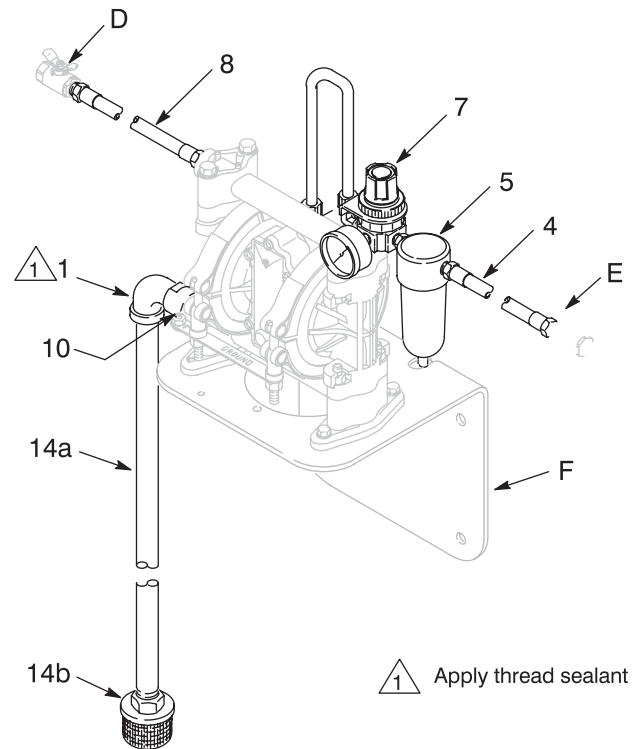

FIG. 3
3. Mount the pump as desired, but be sure the suction hose kit (14) can reach the bottom of the supply container. A wall bracket (F) is shown in FIG. 3.
4. Screw the adapter (10) into the pump inlet. Apply thread sealant to the male threads of the elbow (1). Screw the elbow into the adapter. Screw the suction hose kit (14) into the elbow (1). (FIG. 3)
5. Connect a fluid hose (8) and a fluid shutoff valve (D) at the outlet of the pump. (FIG. 3)
6. Connect an air hose (4) and a bleed-type air shutoff valve (E) at the inlet of the air filter (5). (FIG. 3)
1. Close the bleed-type air valve (E). (FIG. 3)
2. Close the air regulator (7). (FIG. 3)